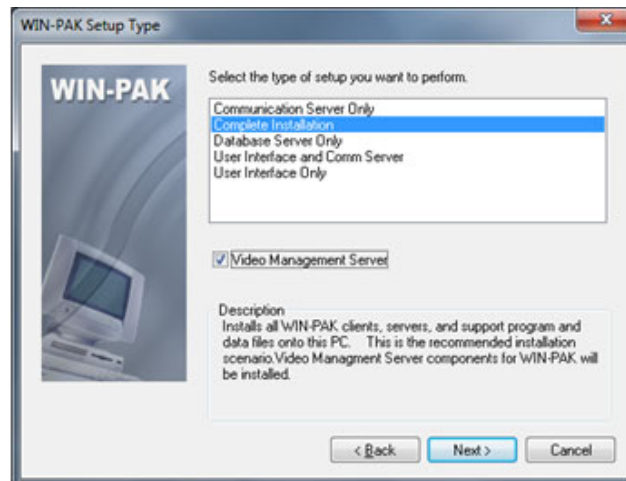

Figure 2-6 Type of Installation
7. Read the license agreement details and click **Accept** to accept the agreement. **Figure 2-6** appears.